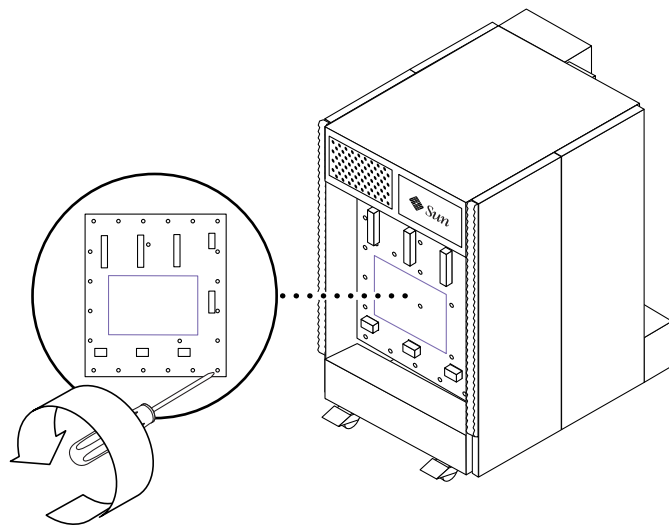

FIGURE 12-25 Removing the Screws Securing the Centerplane to the System—Sun Fire 4800 System
3. Replace the 30 screws securing the insulator and centerplane to the system enclosure (FIGURE 12-25).